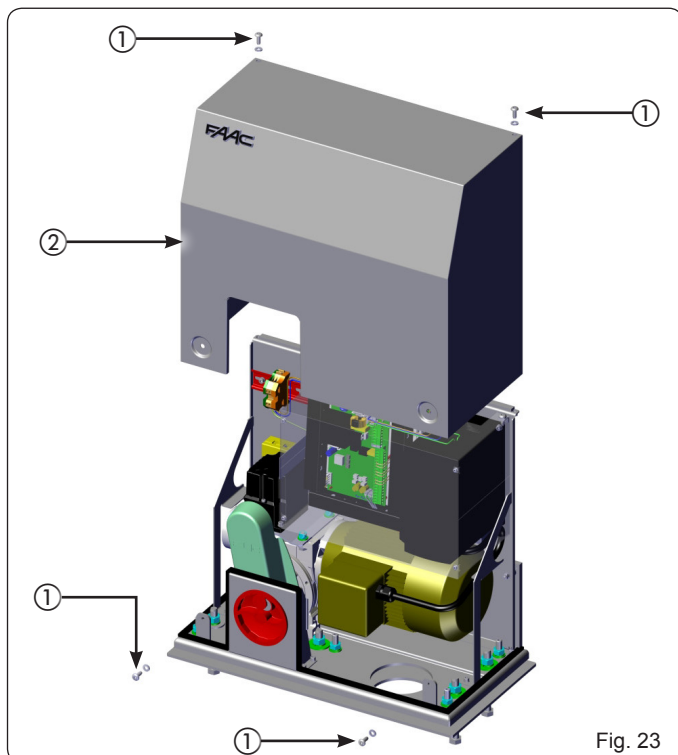

Fig. 23
Fit the housing (Fig. 23 ref. ②) and secure it using the four provided screws (Fig. 23 ref. ①).